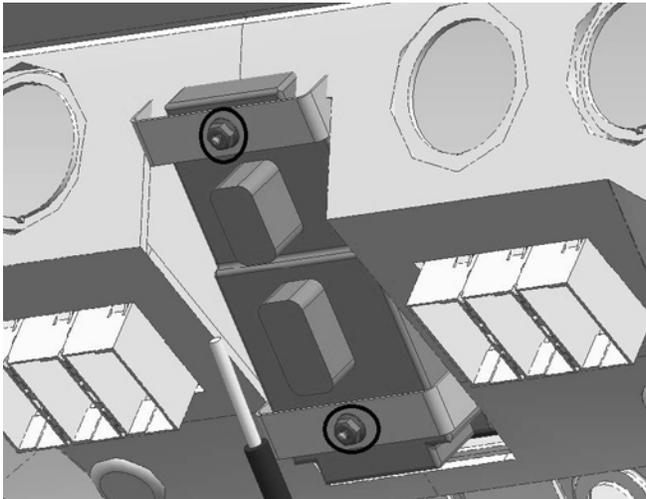

Figure 8-8
11. Using a 10 mm socket, remove the transmission shift selector by removing the two nuts and set aside for reinstallation (see *Figure 8-8*).